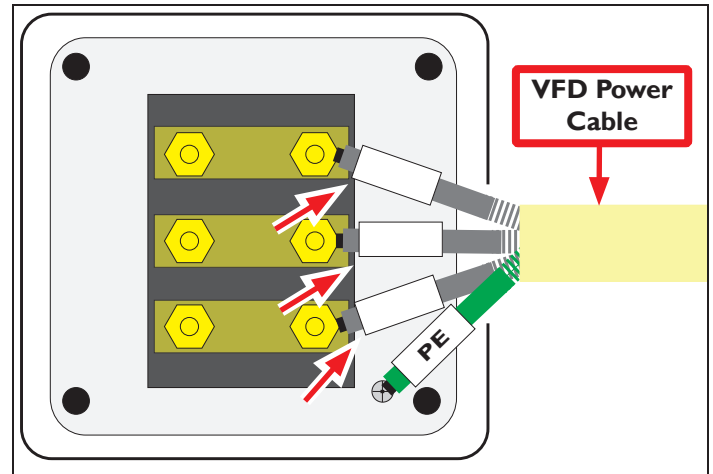

Figure 6
IMPORTANT! Don't move or modify any wires in the Motor Junction Box other than those shown in **Figure 6**.
11. In the spaces on **Figure 6**, write down the wire numbers that you identified in Step 10. You'll use the wire numbers later in this procedure.